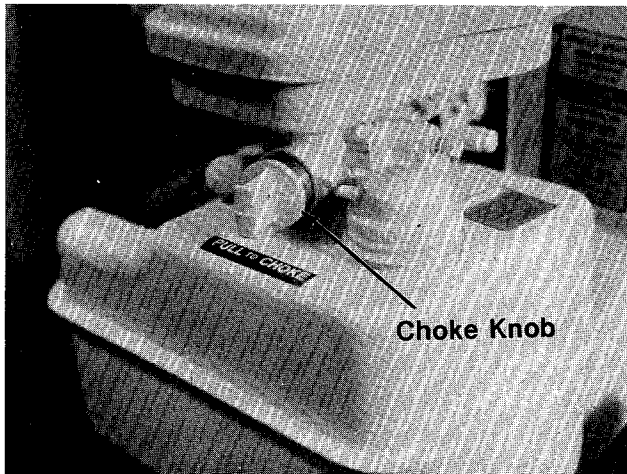

FIGURE 14.
- Pull choke knob out to choke engine. See figure 14.